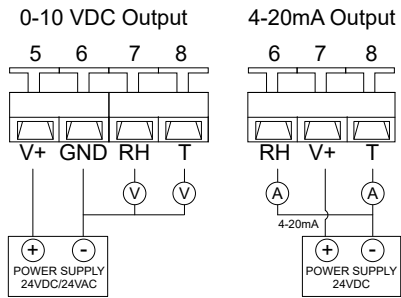

Figure 6 AcuHUM OA/OAW Wiring Diagram, RH and Analog Temperature Output
**NOTE:** If using 4-20mA output for RH/temp signal, the sensor must be powered with a 18.5~35VDC (RL=500Ω) power source. Ensure that the analog input common reference of the BAS controller, PLC, and Automation Panel is connected to the DC power supply common to complete the circuit. The device will not work if the common references are not connected. Refer to Figure 6 below for details.